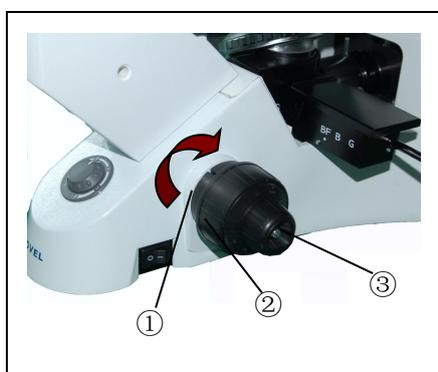

Fig 14
3.2.2 Adjusting the Tension Adjustment Collar (Fig14)
◎How to adjust tension of the coarse focusing knob? Turn the tension adjustment collar ① with the plastic spanner. While revolving at the direction of the arrow in the Fig. 14, the tension of the coarse focusing knob② is increasing, and if at the contrary direction, the tension will decline.